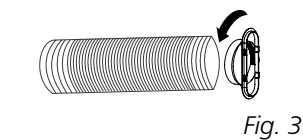

Fig. 3
**2** Extend the other side of the hose and screw it to the hose outlet (Fig.3).